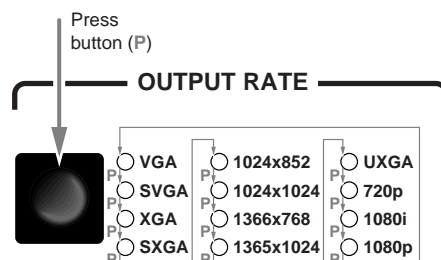

Figure 3-4 — Output Rate buttons
- ③ **Output Rate button** — The Output Rate button (figure 3-4) cycles through the available output screen resolutions. Use this button to select the “sweet spot” resolution of the connected video display device. The switcher defaults to a refresh rate of 60 Hz with each resolution selection using the Output Rate button.